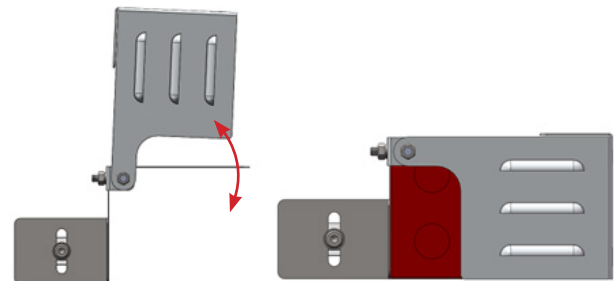

Figure 7
3.6 Open the Cover and install the Isolator on the Bracket according to the installation instruction for Isolator as shown in Figure 7.